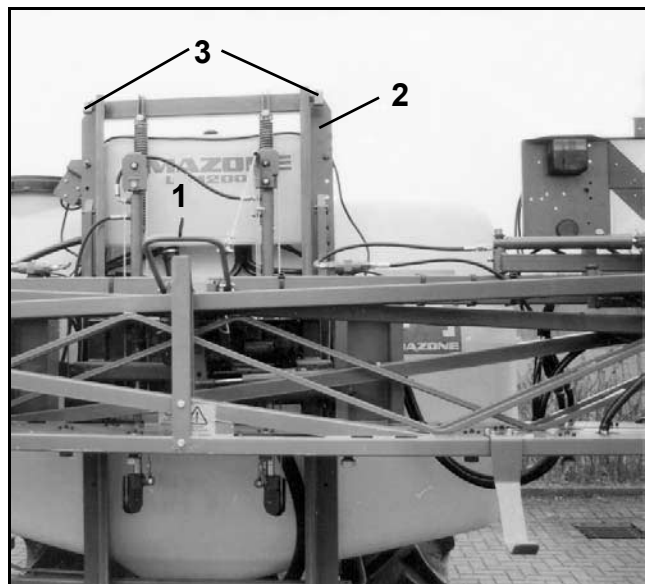

Fig. 52
- Lift the boom in the transport position until the automatic transport lock (Fig. 52/1) releases (boom height will be about 2/3 up the boom mounting frame length (Fig. 52/2)).
- Unlock the boom swing compensation from the transport position by lifting the boom up to its upper stops (Fig. 52/3) (please refer to para. 8.2.2.3).